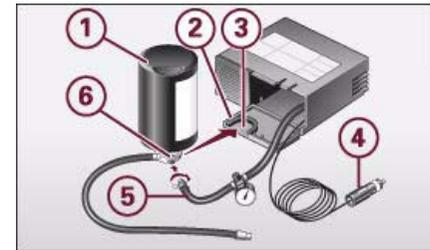
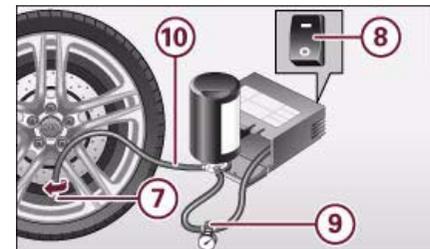

Fig. 125 Components of the Tyre Mobility System
Fig. 126 Connecting the Tyre Mobility System
- Open the flap  on the electric compressor ⇒ fig. 125.
- Screw the filler hose (10) onto the valve (7) ⇒ *page 180*, fig. 126.
- Insert the connector (4) ⇒ *page 180*, fig. 125 into the cigarette lighter socket.
- Move the switch (8) ⇒ *page 180*, fig. 126 on the compressor⁴⁾ to position I. After 5 minutes tyre pressure should be at least 1.8 bar.
- Remove the empty tyre sealant can and screw the compressor hose (5) ⇒ *page 180*, fig. 125 directly onto the valve.
- Insert the connector (4) into the cigarette lighter socket.
- Move the switch (8) ⇒ *page 180*, fig. 126 on the compressor to position I. After 5 minutes tyre pressure should be at least 1.8 bar.